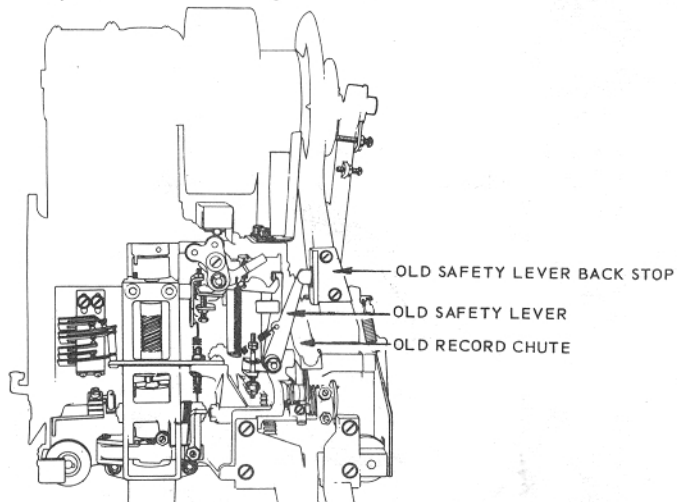

FIGURE 10 REAR OF SEEBURG UNIT
- A. Remove the old record chute, its actuating lever assembly and the old safety lever back stop (Fig. 10).